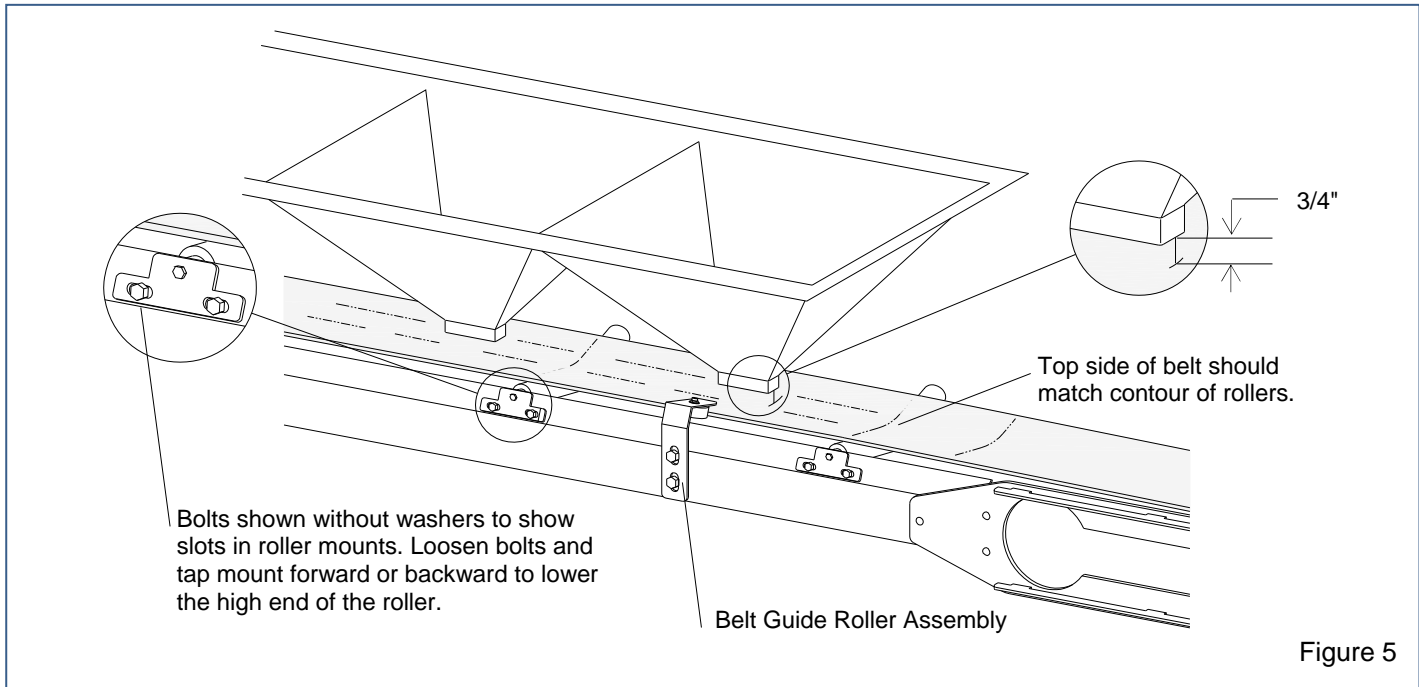

Figure 5
**5.1.4** While the motor is running, adjust both take-up screws evenly and alternately until the belt is taut enough so the sides of the belt slopes to match the contour of the top rollers. Doing so should place the top of the belt approximately 3/4-inches from the bottom of the hoppers, as shown in Figure 5. While tightening the take-up screws, make sure the belt stays centered on the idler roller and drive roller. Adjust the drive end adjustment bolts as required. NOTE: If the center of the belt drifts to one side, adjust top rollers as follows.
**5.1.4.1** Belts tend to drift toward the high side, which means the roller on the side the belt travels is higher than the one opposite. Lower the roller on the side that drifts toward the edge by loosening the roller mount and move it slightly forward or backward, as noted in Figure 5, until the belt tracks in the center. Tighten the bolts to maintain the setting. If adjustment is required on multiple rollers, stop the conveyor and repeat the process on any roller where the belt drifts. Restart the conveyor and check the tracking to see if additional adjustments are needed.